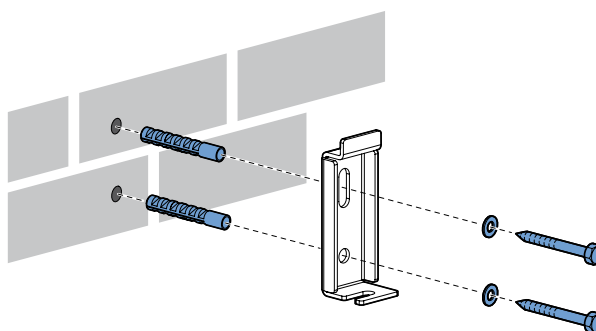

Figure 1.3 Installation of the wall support.
View figure 1.3. If necessary, use an alignment string.
Drill the installation holes. Use matching plugs and bolts of high quality. Install the wall supports (A) and tighten the bolts. See figure 1.3.